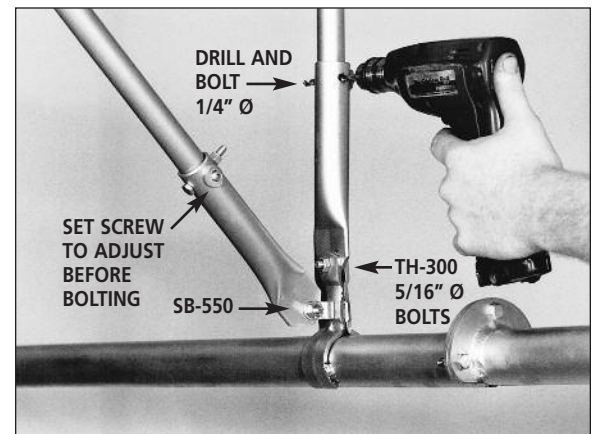

Figure 5
- **Figure 5** shows TH-300 track hanger clamp and SB-550 sway brace. SL-300 sleeves allow height adjustment of the hanger using set screws. Once the track is installed at the correct height, hangers **MUST** be drilled and bolted with 1/4" x 1-1/2" long bolts.